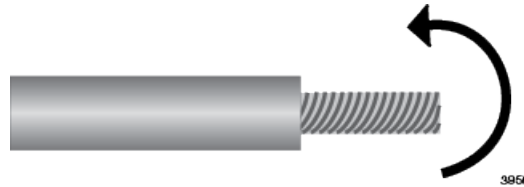

Figure 41. Wrap Wire Strands
2. Tightly wrap the wire strands with your finger tips. Refer to Figure 41.